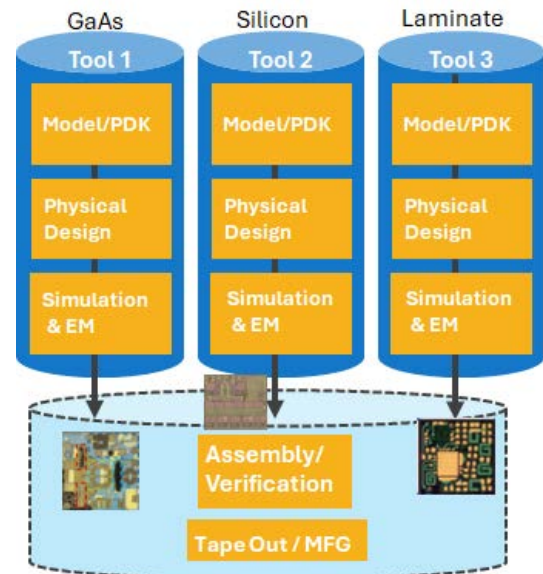

Figure 2. Traditionally, technology has dictated the design flow.
In *Figure 2*, for example, the siloed Tool 1 handles the GaAs development, including process-design-kit (PDK) selection, physical design, and electronic and electromagnetic (EM) simulations. Similarly, siloed Tool 2 and Tool 3 handle silicon and laminate design, respectively, each in isolation, followed by assembly, verification, tape-out, and manufacturing.